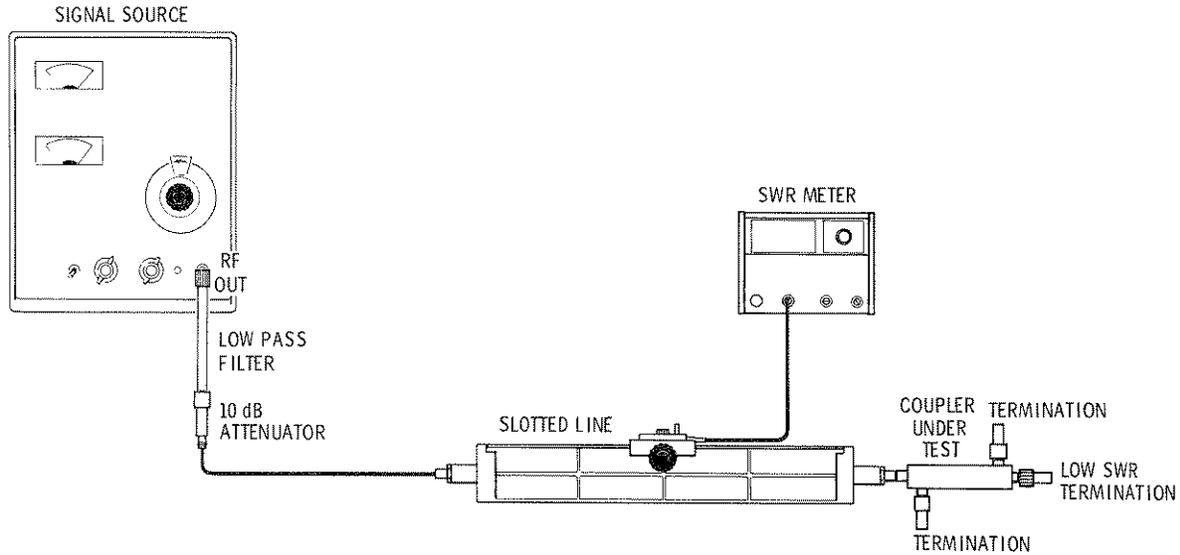

Figure 9. Fixed-Frequency Primary-Line SWR Test Setup
- a. Connect the equipment as shown in Figure 9.